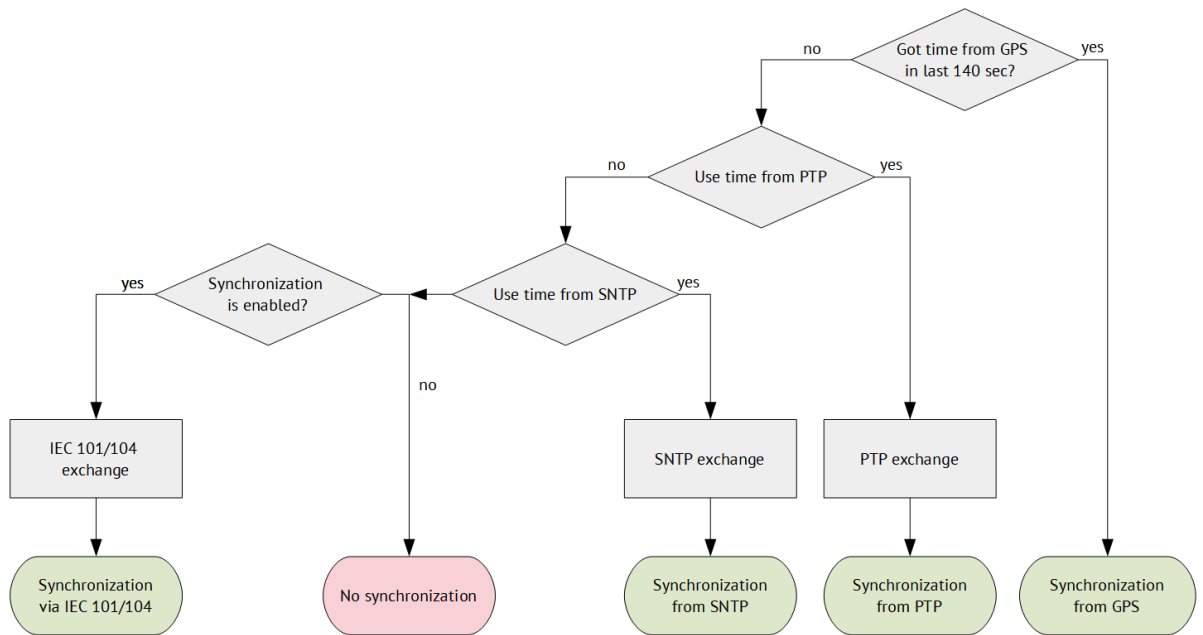

Figure 5.10. Algorithm for synchronizing the internal clock in ENCS-3m
- 5.6.3 If the satellite signal is lost, when the synchronization method from the internal receiver is used, the device automatically switches to the synchronization mode from higher-level devices. The algorithm for selecting the source of precise time is shown in Fig. 5.10